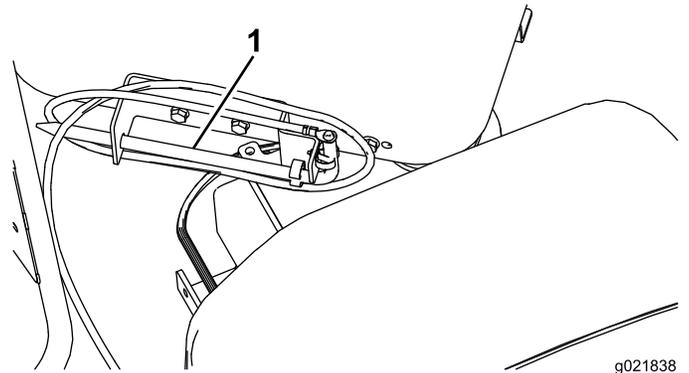

Figure 31
8. Store the grounding stake in the holder on the operator platform as shown in Figure 31.